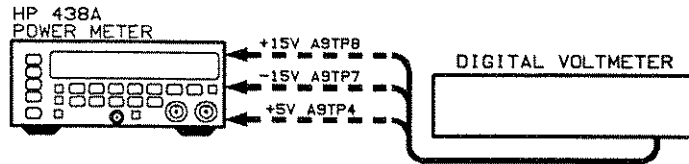

Figure 5-1. Power Supply Adjustments Setup
- Procedure** 1. See Figure 5-1. Connect the DVM between the +5V testpoint A9TP4 and ground. Adjust +5V, A9F3 until the DVM reads 5.00 ±0.05 volts.